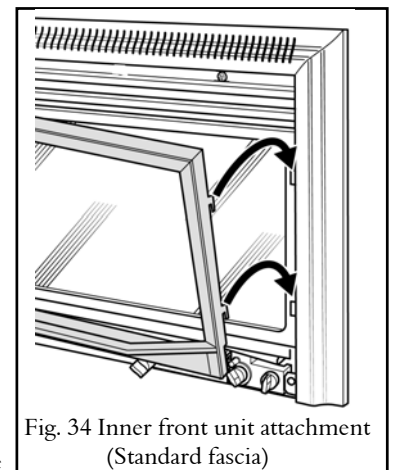

Fig. 34 Inner front unit attachment (Standard fascia)
7.10.1.2 Locate the hooks on the inner front unit into the slots at each side of the fire box. Push the inner front fully downwards (fig. 34).